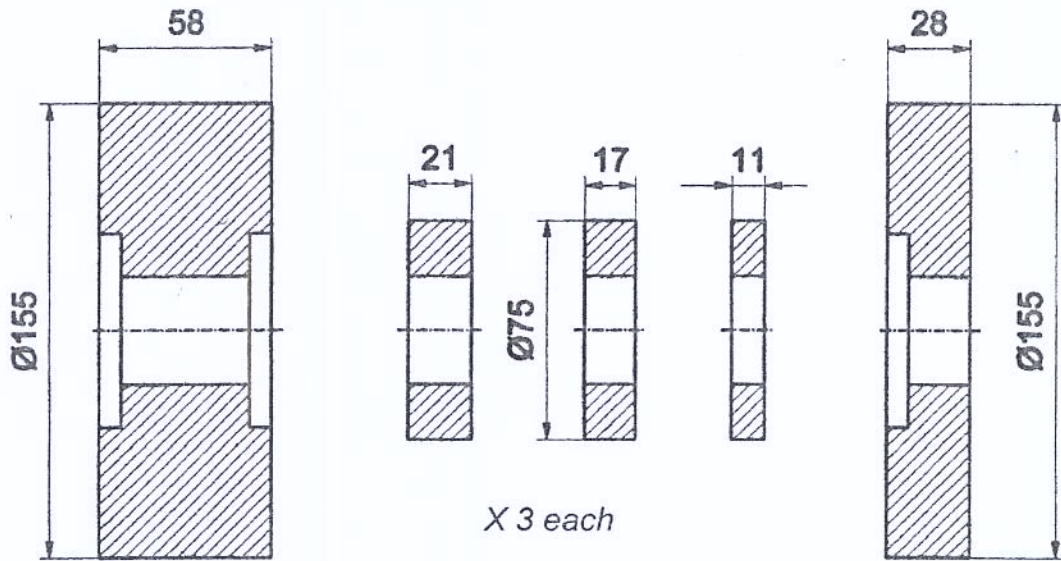

Figure 1
**Note:** As the three rollers have the same and standard sizes, the dimensions given in figure 1 is valid for them all.